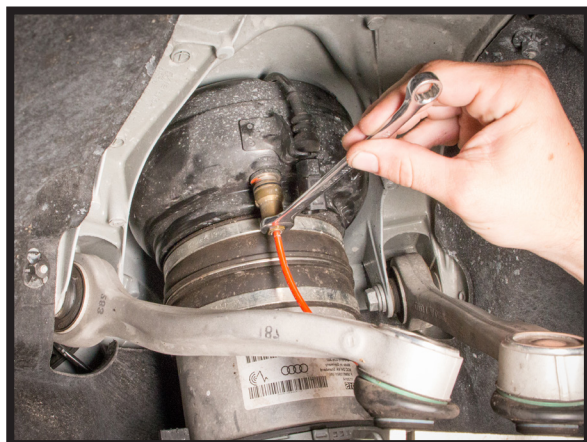

FIGURE 7
8. DISCONNECT AIRLINE. (FIGURE 7, 8)